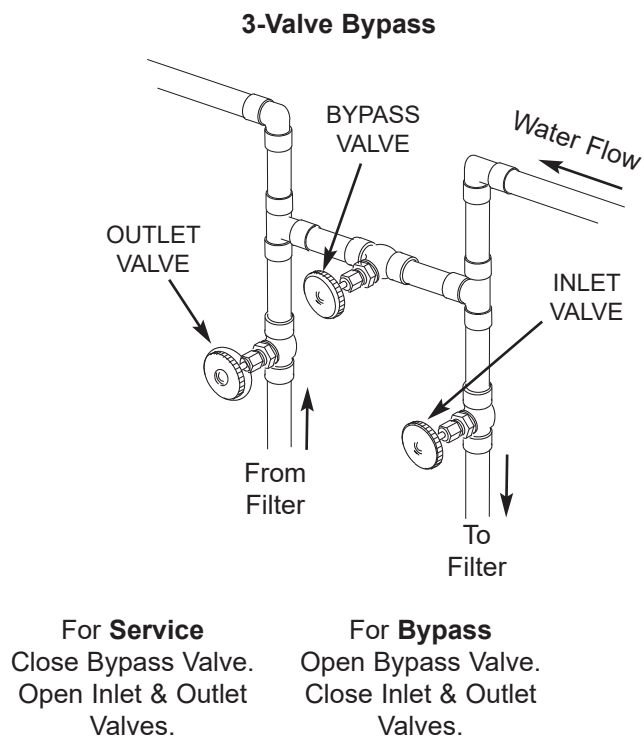

FIG. 93
3-VALVE BYPASS (See Figure 93)
4. Are plumbing bypass valve(s) in service position (See Figures 93 & 94 on Page 27)?